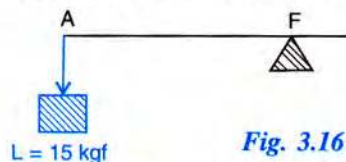

Fig. 3.16
4. Fig. 3.16 below shows a lever in use.